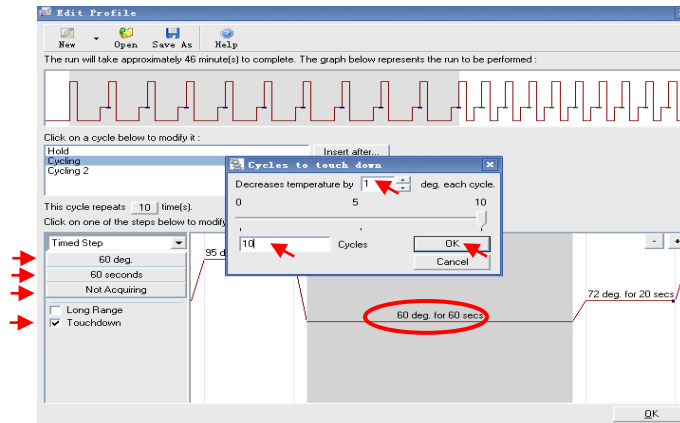
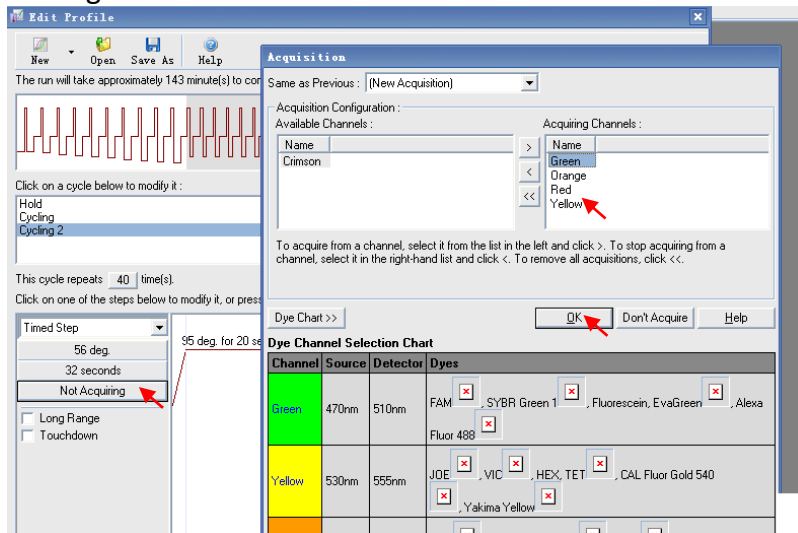

Figure 9
Figure 12
d. Choose the second step of “cycling”. Set the temperature as 60 degrees, set the time as 60 seconds, choose “not acquiring” and click on the “touchdown”. In the “Cycles to touch down”, set the “Decreases temperature” by 1 degree for each cycle and 10 cycles, click on “OK” to complete the set-up of touchdown (Figure 9).
Click on the “Not Acquiring” button. In the “Acquisition”, use the > to shift the Green, Orange, Red and Yellow channels in the “Available Channels” into the “Acquiring Channels”, click on “OK” to complete the set-up of this part (Figure 12). Then click on “OK” as shown in Figure 9.